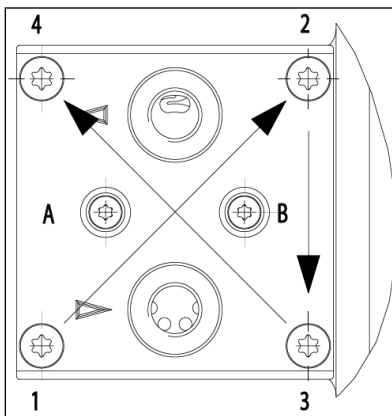

Fig.9 Tighten cap head screws (head plate shown as an example (screws (A) and (B) only in N87TTE design))
2. Screw in the screws (5) with disk spring and slightly tighten them crosswise in the order 1-2-3-4 (see Fig. 9) with 1 Nm.
4. Tighten the screws (5) with disk spring crosswise in the order 1-2-3-4 (see Fig. 9). Tightening torque: 2.1 Nm.